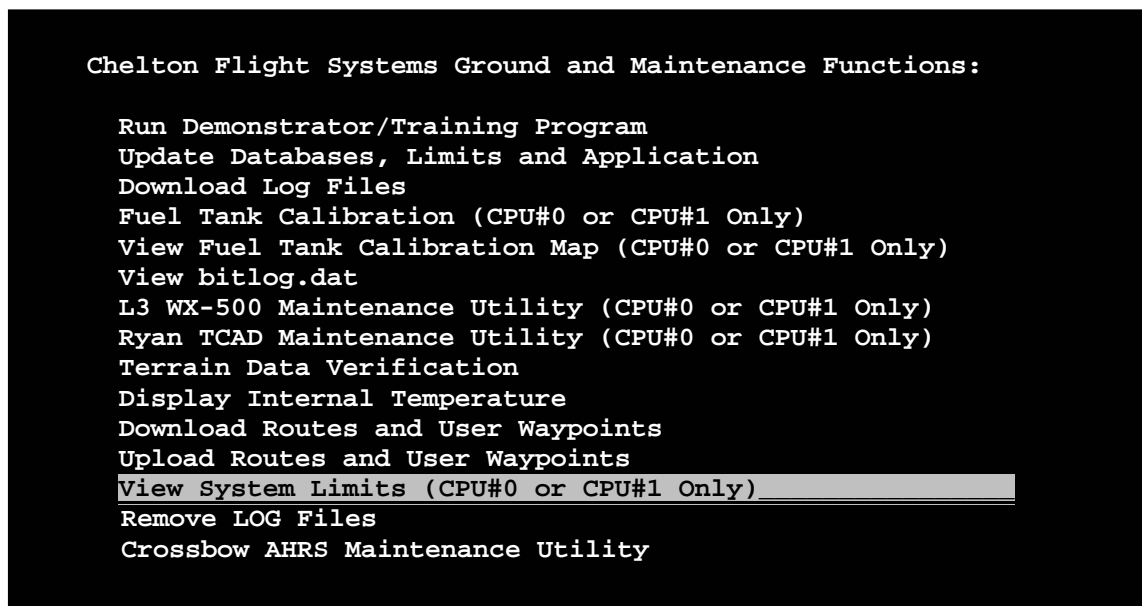
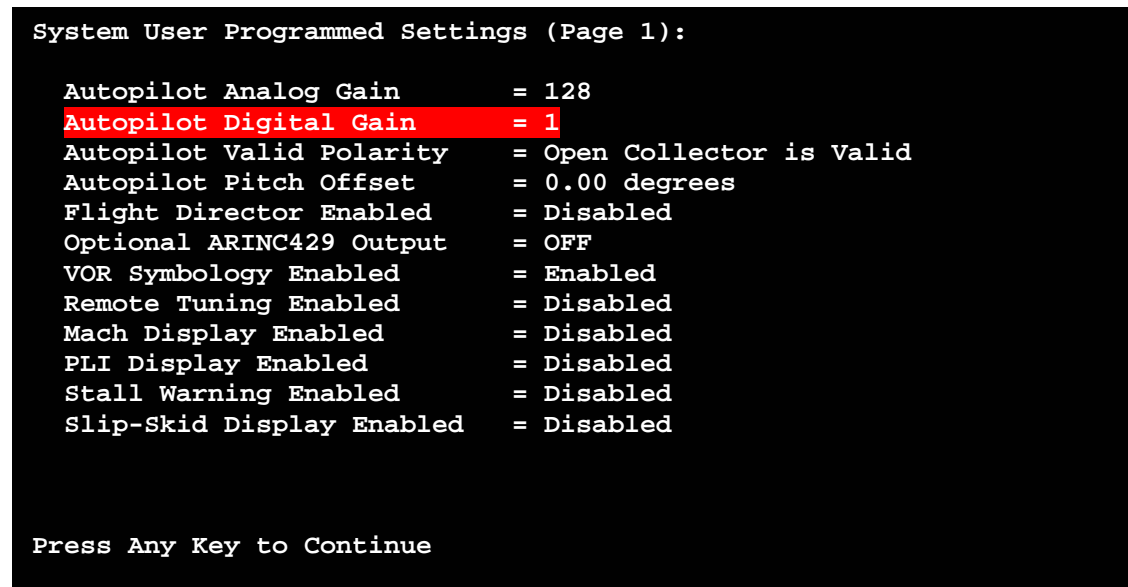

Figure 2 View System Limits
Figure 3 System User Programmed Settings (Page 1)
5. Rotate the right-hand encoder until the “View System Limits (CPU#0 or CPU#1 Only)” is highlighted then press in the right-hand encoder (See Figure 2).
6. Press any button or rotate the right-hand encoder three (3) times until the “System User Programmed Settings (Page 1)” is displayed.
7. View the *Autopilot Digital Gain* option (As shown in red in Figure 3).
4. Rotate the right-hand encoder until the "View System Limits (CPU#0 or CPU#1 Only) is highlighted then press in the right-hand encoder (See Figure 2).
5. Press any button or rotate the right-hand encoder three (3) times until the "System User Programmed Settings (Page 1)" is displayed.
6. Verify the *Autopilot Digital Gain* option is set to "1" (See Figure 3).
7. Press any button or rotate the right-hand encoder three (3) times until the Ground Maintenance menu is displayed.